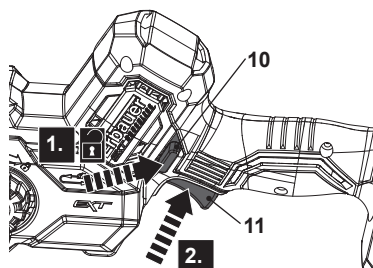

Fig. 17
1. Press the lock-off button (10) and hold it in position (Fig. 17, step 1).
2. Squeeze the on/off switch (11) to switch the product on (Fig. 17, step 2). Release the lock-off button (10) afterward.
3. Release the on/off switch (11) to switch the product off.